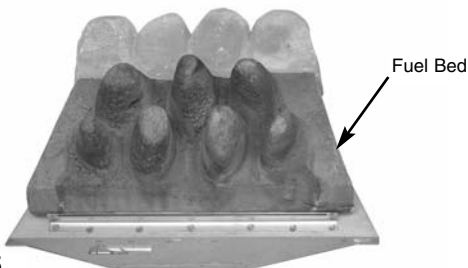

Fig. 55
2. Place the main fuel bed on to the middle section of the metal burner tray. It is important that the front edge of the fuel bed is located behind the burner strip (Fig. 55).